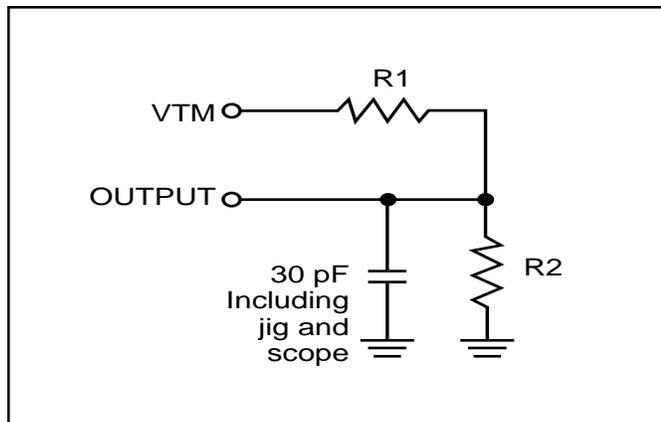

Figure 1
1. Test conditions assume signal transition times of 5 ns or less, timing reference levels of 0.9V/1.5V, input pulse levels of 0.4 to $V_{DD}-0.2\text{V}/0.4\text{V}$ to $V_{DD}-0.3\text{V}$ and output loading specified in Figure 1.
1. Test conditions assume signal transition times of 5 ns or less, timing reference levels of 0.9V/1.5V, input pulse levels of 0.4 to $V_{DD}-0.2V/0.4V$ to $V_{DD}-0.3V$ and output loading specified in Figure 1.